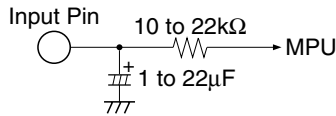

Figure 2 Interface for Reduction of Pop Noise
3. Reducing pop noise is so much better for 10 k Ω to 22 k Ω resisitor and 1 μ F to 22 μ F capacitor shown figure 2.